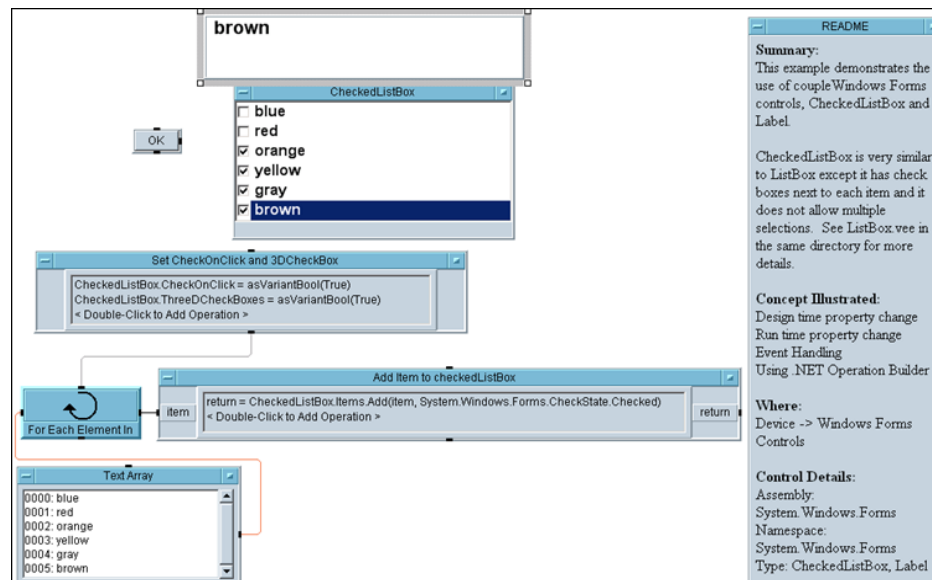

Figure 4-9 CheckedListBox after being expanded and while running
- 6 Select Menu Bar => Help => Open Example => DotNETControls => CheckedListBox. See Figure 4-9; add two colors and arrange objects as shown.